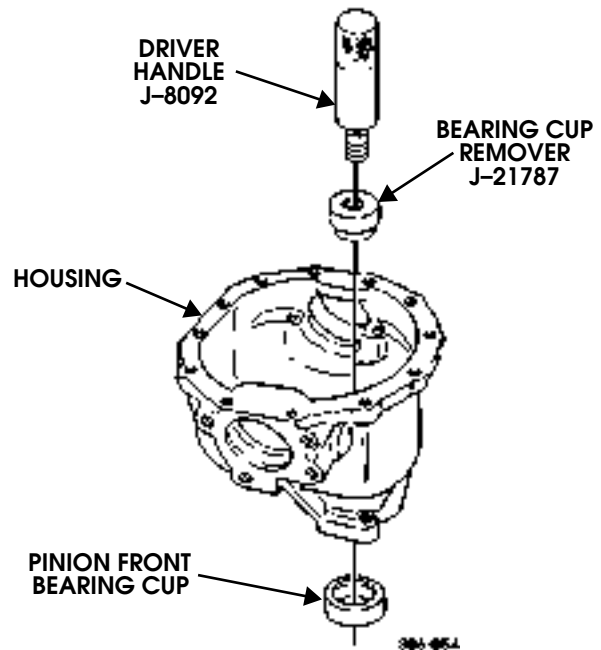

Figure 9-68: Pinion Front Bearing Cup Removal
20. Rotate housing 180 degrees. Using driver handle J-8092 and pinion front bearing cup remover J-21787, remove front pinion bearing cup from housing (Figure 9-68).